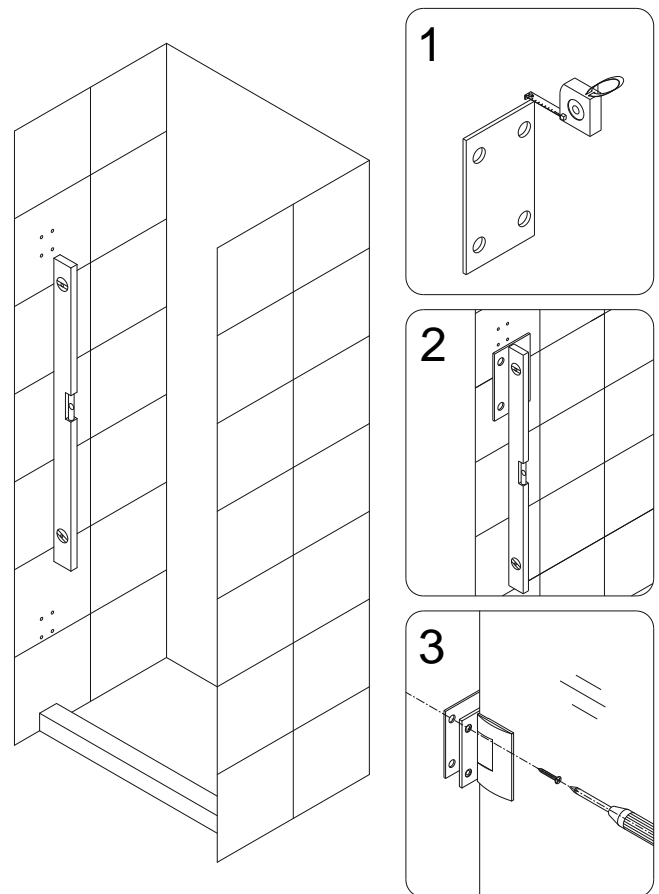

Fig. 4
The included PVC hinge spacers (31) are provided to compensate for minor out-of-plumb wall conditions. Use only as needed as their use could compromise the opening size of your shower. Please see Fig 4 for an installation example.
See Fig. 3 and Fig. 4 for details.